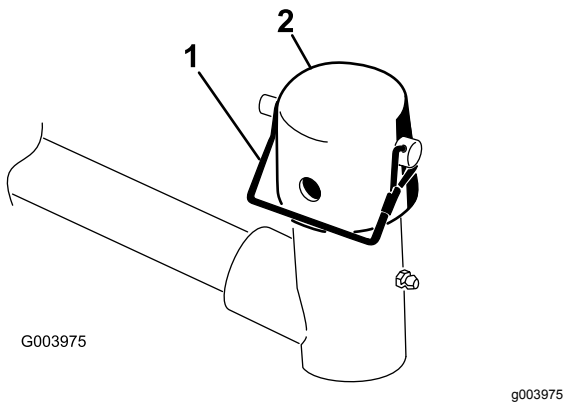

Figure 10
7. Remove the snapper pin and the cap from the lift-arm-pivot yoke (Figure 10).
11. Secure the cap and the carrier-frame shaft to the lift-arm yoke with the snapper pin (Figure 10).